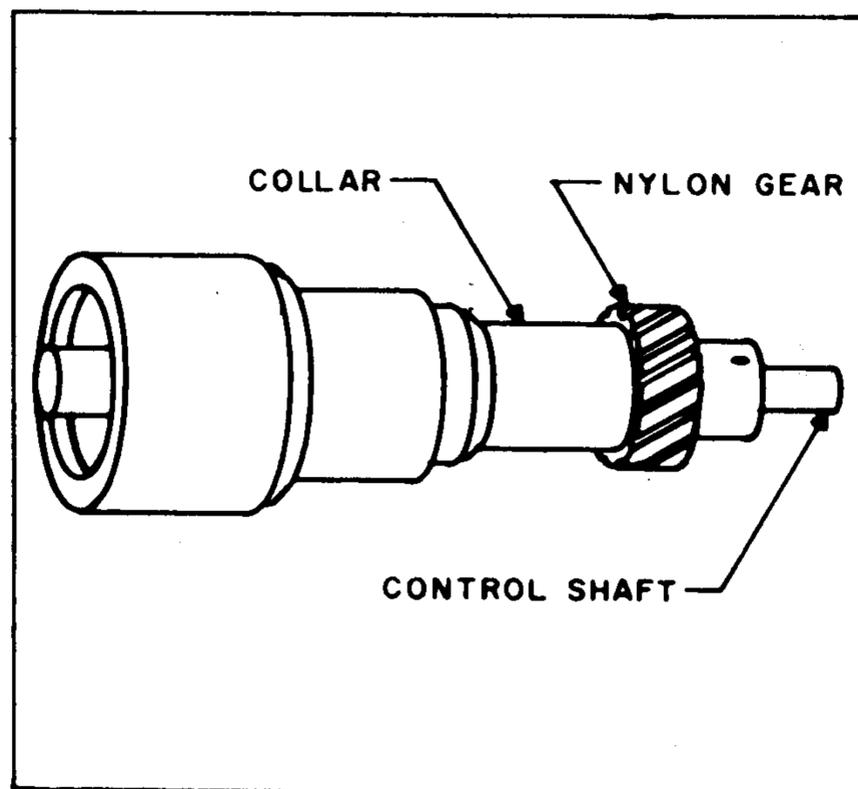

Figure 6-3. Vacuum Tube Capacitor C113, Replacement
Step 4. Turn the control shaft and nylon gear (figure 6-3) on the new capacitor until the collar does not turn freely. Add one more quarter turn.